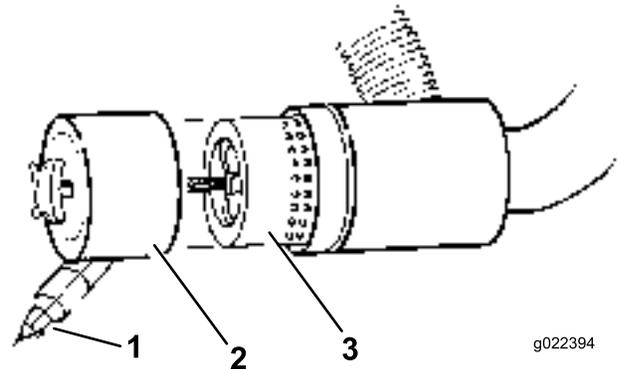

Figure 58
4. Remove and replace the filter (Figure 58).